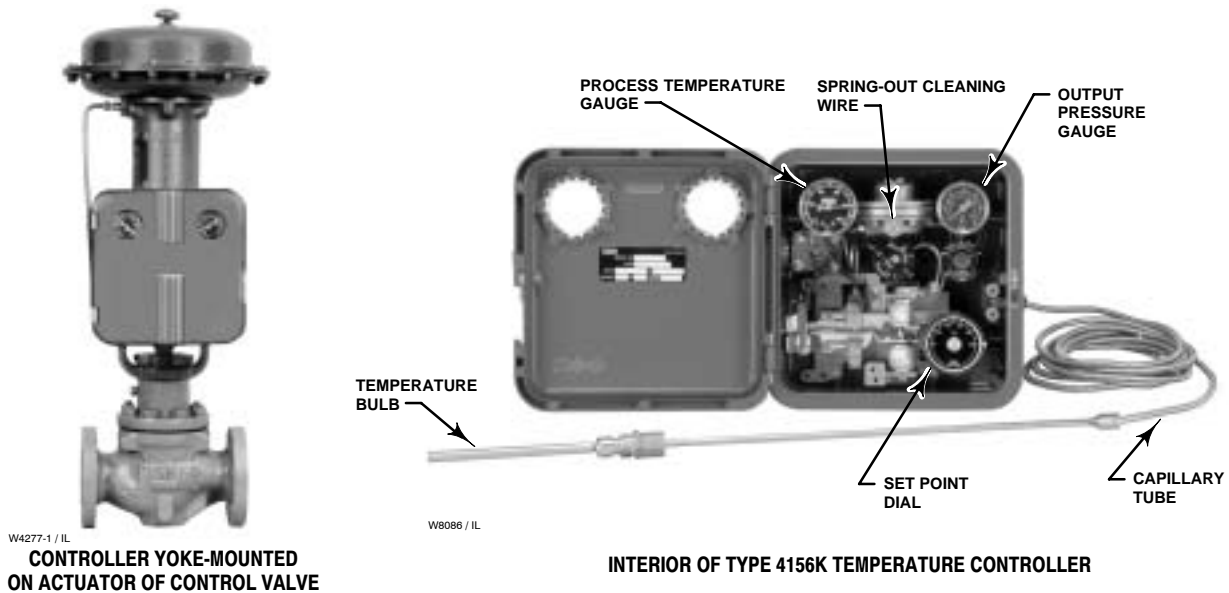

Figure 1. Type 4156K Controller
The 4156K and 4166K Series Wizard® II temperature controllers (figure 1) provide rugged and economical solutions to temperature control in many applications, particularly in the chemical and oil production industries. These pneumatic instruments are available for proportional-only, proportional-plus-reset, and differential gap control. They measure process temperature with a gas-filled temperature bulb immersed in the process fluid and compare this temperature to an operator-adjusted set point. The controller then delivers a pneumatic signal to a control element that maintains the process temperature at or near the set point.
- **Mounting Versatility**—Install the controller on a panel, wall, or pipestand, as well as on an actuator (as shown in figure 1). The temperature element is